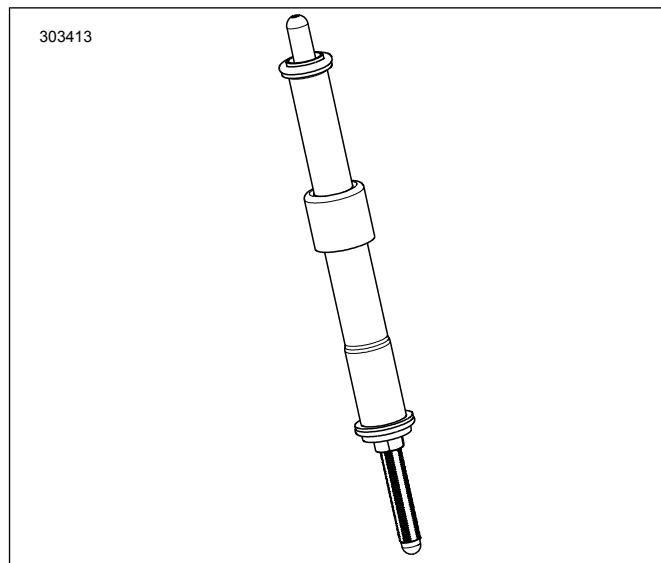
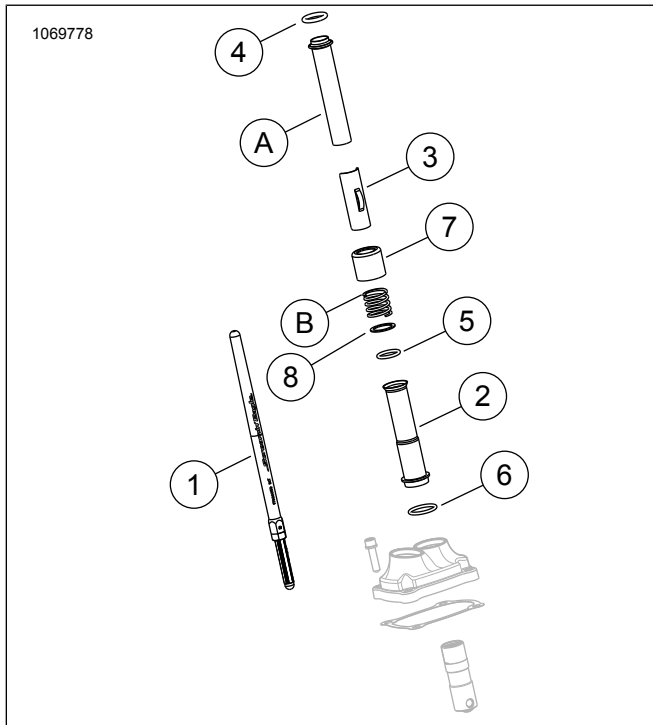

Figure 3. Pushrod Installed into Pushrod Cover
Figure 5. Service Parts
See Figure 5 and Table 1.
5. See Figure 3 and Figure 5. Install the intake pushrods into the pushrod covers. Replace O-rings, lower pushrod cover and spring cover keeper with new components supplied in kit. Be sure adjuster end of pushrod is down.